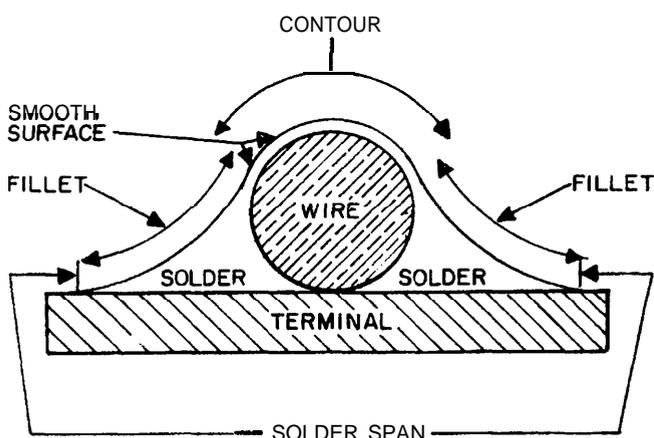

Figure 9. Characteristics of a Good Soldered Joint.
6.10 Watch closely when feeding solder into the connection so that you will be able to quickly judge at what point you have fed an adequate amount of solder onto the connection. The instant that you have determined that adequate solder has been applied, quickly pull the solder out of contact with the connection. However, continue to hold the iron on the connection until you see a smooth solder flow. At this time move the iron forward over the terminal so that the solder completely covers the wire leaving solder fillets on each side of the wire (Figure 9). When you see this complete, smooth solder flow, quickly remove the soldering iron bringing with it any surplus solder (Figure 10).
6.11 Only a small amount of solder is needed to make the joint illustrated in Figure 9 which shows a thin coat of solder spread smoothly over the wire completely covering it. The use of too much solder results in a lumpy and possibly inadequate connection.